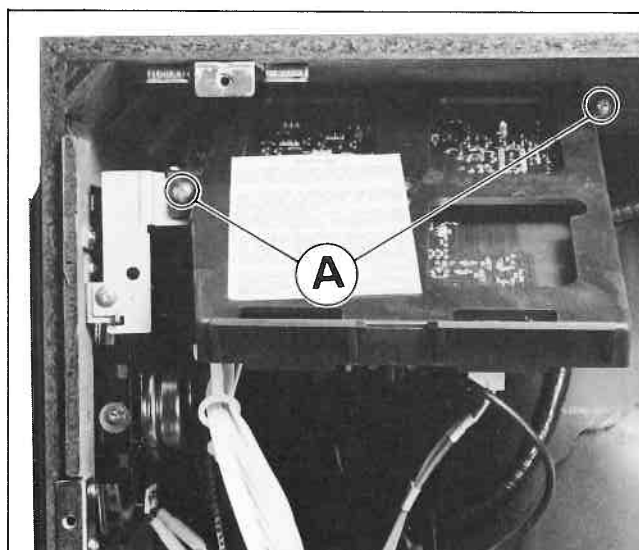

Fig. 5-4
1. Unscrew the two screws (A) shown in Fig. 5-4.